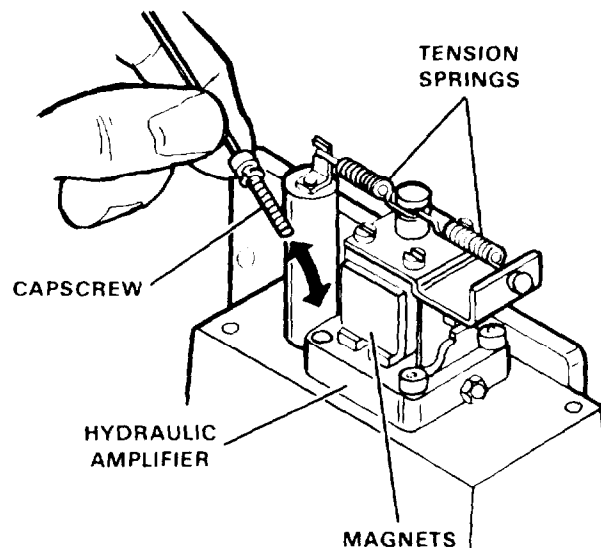

Figure 9B-28. Tension Spring and Capscrew Removal
2. Use a 5/64 inch Allen wrench to remove screws (22).
3. Using a 9/64 inch Allen wrench, remove two capscrews (23) and lockwashers (24).
4. Slide motor cap (03) toward electrical connector (01) until the motor cap bottoms.
5. Carefully push the electrical connector into motor cap (03).
6. Remove the motor cap, gasket (06), and electrical connector gasket (02).
8. Use a 25-50 watt soldering iron to unsolder the coil leadwires from the electrical connector terminals. Disconnect both tension springs from the top of the hydraulic amplifier assembly (see Figure 9B-28).
9. With a 3/32 inch Allen wrench, remove four socket head capscrews (25) and lockwashers (26). Do not let the screws or washers rub the magnets (see Figure 9B-28).